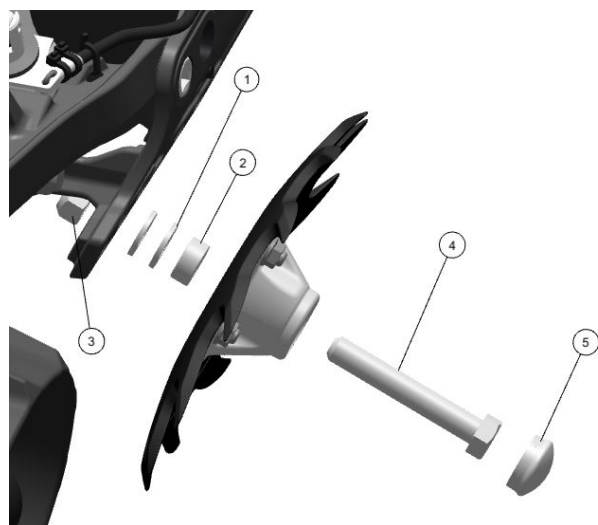

Figure 1.
Install each wheel using the provided hardware. For systems that **WILL NOT** be running in rocky conditions, install **two washers** (1) and **one spacer** (2) between each wheel and the casting as shown in Figure 1. This will result in a wheel spacing of approximately 2.5”.